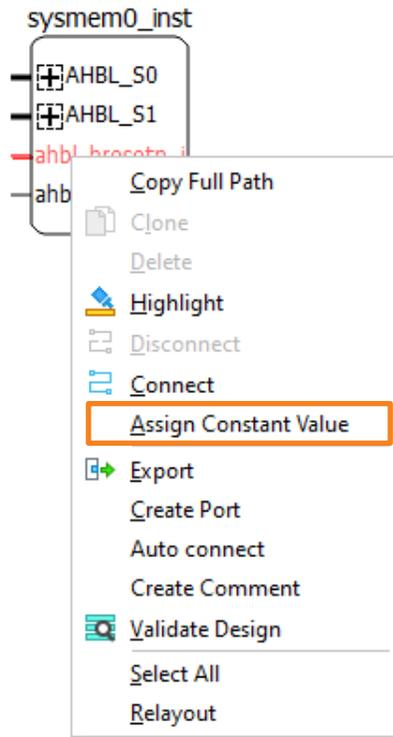

Figure 2.58. Right-click Menu of an Input Pin
1. Select the desired pin and right-click the pin. Choose **Assign Constant Value** (Figure 2.58).